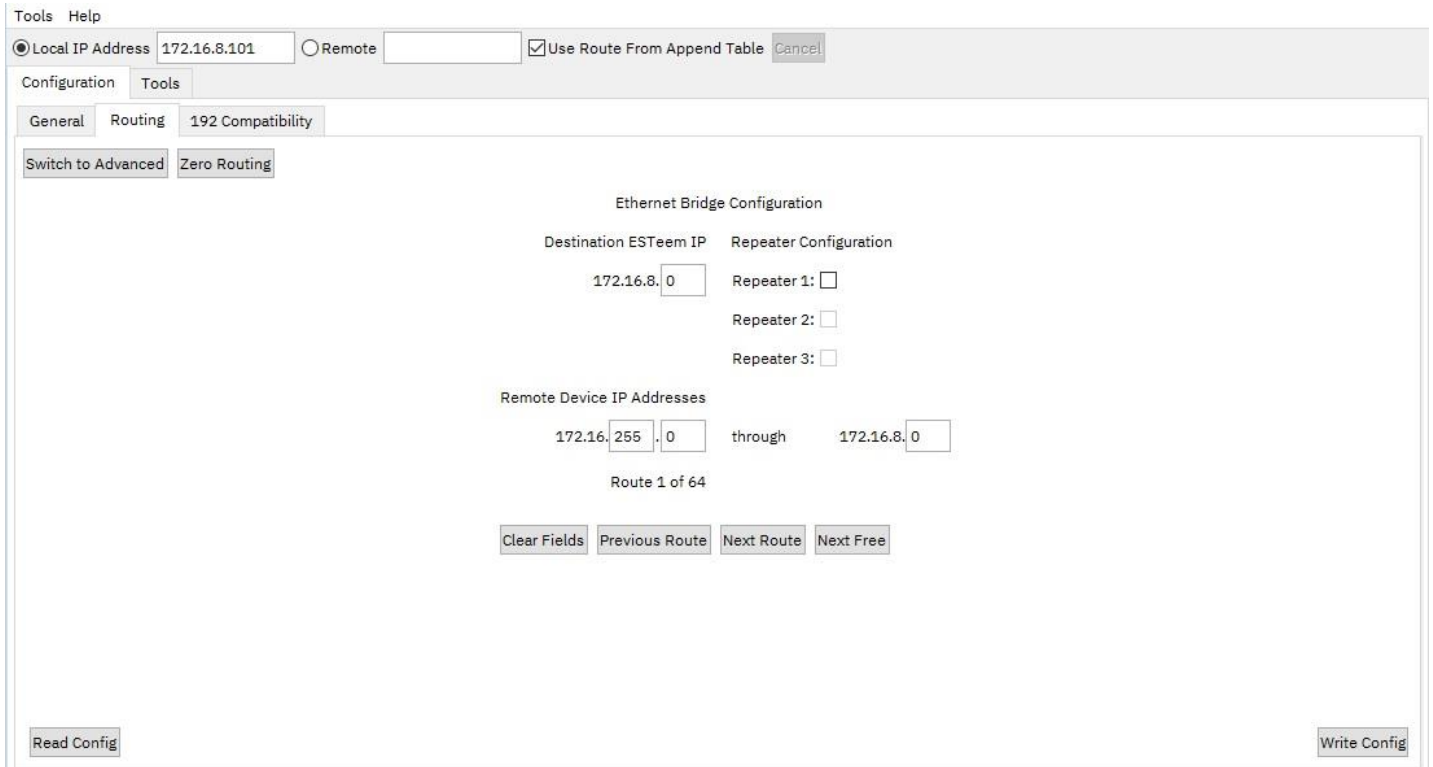

Figure 4: Routing Simple Setup
- A. Click the Routing tab and press the “Read Routes” button. (Figure 4)